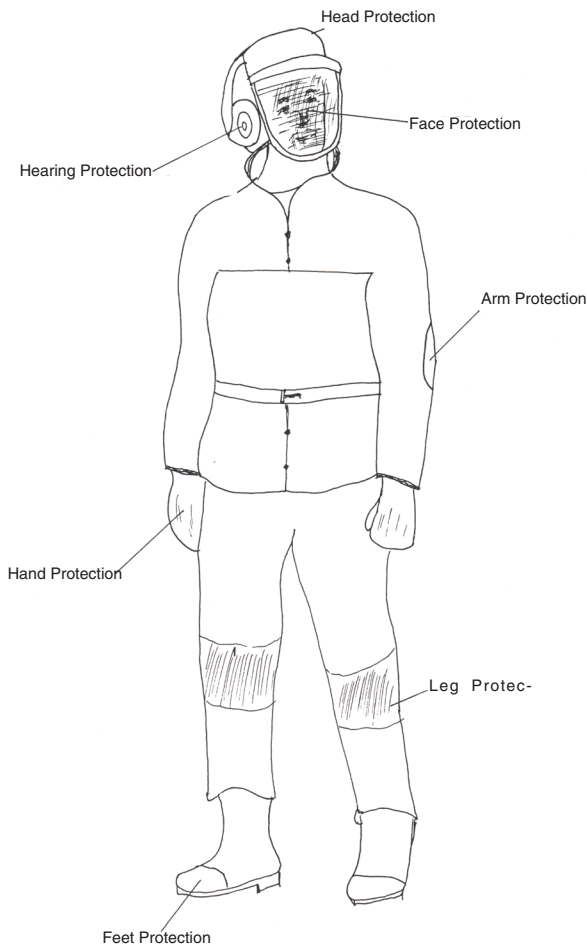

Figure 2. Personal protection gear for chainsaw operators.
4. **Clothing :** Proper clothing is neglected by many chainsaw operators. Tight but flexible clothing is ideal for operators. Leg, arm, and hand protectors made from woven nylon, Kevlar fiber, or similar material are highly recommended. Steel toed boots are also useful. Personal safety protection is illustrated in Figure 2.